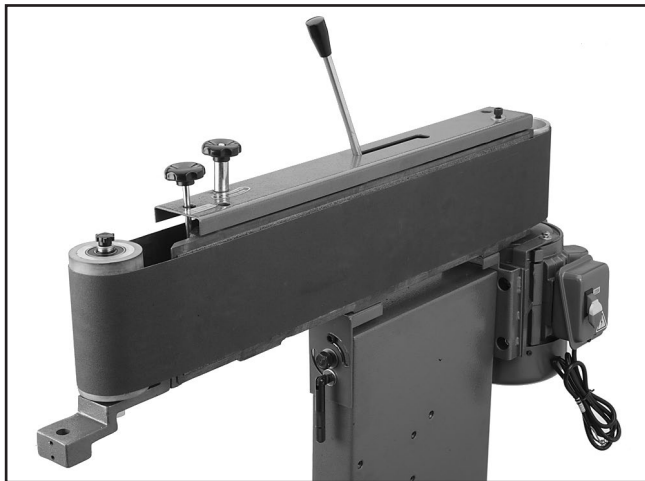

Figure 11. Sanding belt installed.
- Move the tension lever back to its tensioned position, as shown in **Figure 11**. Belt pre-tracking and tracking are covered on **Pages 18 and 19**.